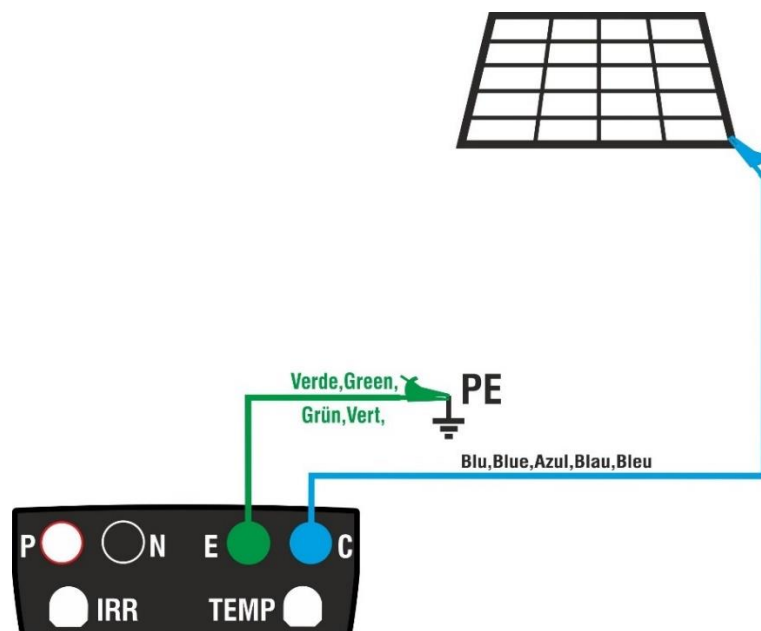

Fig. 6: Connection of instrument for continuity test on structures of the PV installation
5. Connect the instrument to the PV module/string being tested and to the main earth node of the system as shown in Fig. 6.
8. Connect the instrument to the PV module/string being tested and to the main earth node of the system as shown in Fig. 6.